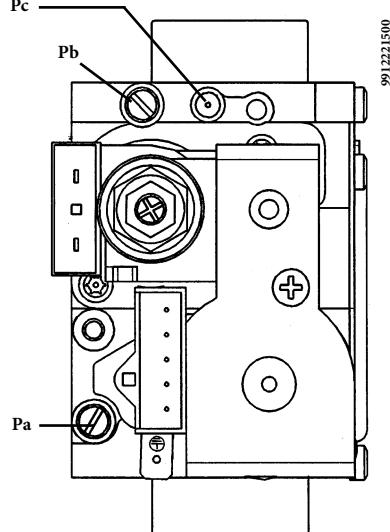
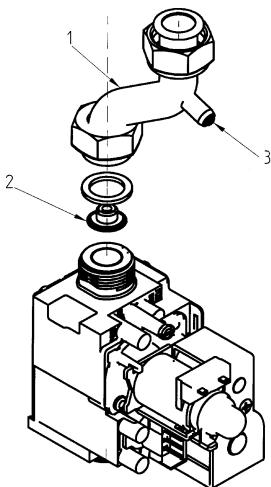

Figure 12a
Figure 12b (models 240/40 i - 240/60 i - 240/40 Fi and 240/60 Fi)
- remove the gas inlet hose (1 of Figure 12b);
- replace the diaphragm nozzle mounted on the gas valve (2);
- connect the positive pressure test point of a differential pressure gauge (possibly water-operated) to the gas valve pressure test point (**Pb**) (figure 12a). For models 240 i/Fi use the pressure tap (3) in the gas inlet hose (figure 12b). Only for models with sealed chambers, connect the negative pressure test point of the pressure gauge to a "T" fitting in order to join the boiler adjustment outlet, the gas valve adjustment outlet (**Pc**) and the pressure gauge. (The same measurement can be made by connecting the pressure gauge to the pressure test point (**Pb**) after removing the front panel of the sealed chamber);
- make sure that the dynamic inlet pressure of the boiler, measured at the gas valve pressure test point (**Pa**) (Figure 12a) is correct (30 mbar for butane, 37 mbar for propane or 20 mbar for natural gas).